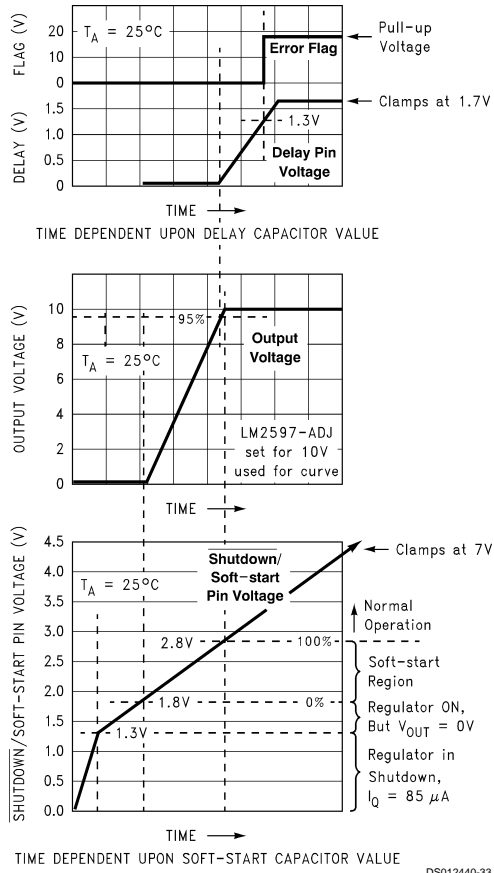
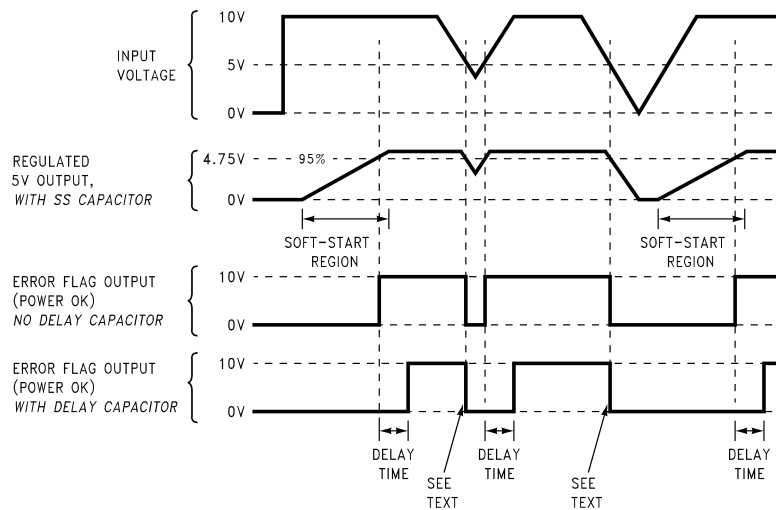

FIGURE 13. Soft-start, Delay, Error, Output
FIGURE 14. Timing Diagram for 5V Output
C_{SS} —A capacitor on this pin provides the regulator with a Soft-start feature (slow start-up). When the DC input voltage is first applied to the regulator, or when the Shutdown /Soft-start pin is allowed to go high, a constant current (approximately 5 μA) begins charging this capacitor). As the capacitor voltage rises, the regulator goes through four operating regions (See the bottom curve in *Figure 13*).
3. Soft-start Region. When the \overline{SD} /SS pin voltage is between 1.8V and 2.8V (@ 25°C), the regulator is in a Soft-start condition. The switch (Pin 8) duty cycle initially starts out very low, with narrow pulses and gradually get wider as the capacitor \overline{SD} /SS pin ramps up towards 2.8V. As the duty cycle increases, the output voltage also increases at a controlled ramp up. See the center curve in *Figure 13*. The input supply current requirement also starts out at a low level for the narrow pulses and ramp up in a controlled manner. This is a very useful feature in some switcher topologies that require large startup currents (such as the inverting configuration) which can load down the input power supply.
Note: The lower curve shown in *Figure 13* shows the Soft-start region from 0% to 100%. This is not the duty cycle percentage, but the output voltage percentage. Also, the Soft-start voltage range has a negative temperature coefficient associated with it. See the Soft-start curve in the electrical characteristics section.
C_{DELAY} —Provides delay for the error flag output. See the upper curve in Figure 13, and also refer to timing diagrams in Figure 14. A capacitor on this pin provides a time delay between the time the regulated output voltage (when it is increasing in value) reaches 95% of the nominal output voltage, and the time the error flag output goes high. A 3 μ A constant current from the delay pin charges the delay capacitor resulting in a voltage ramp. When this voltage reaches a threshold of approximately 1.3V, the open collector error flag output (or power OK) goes high. This signal can be used to indicate that the regulated output has reached the correct voltage and has stabilized.